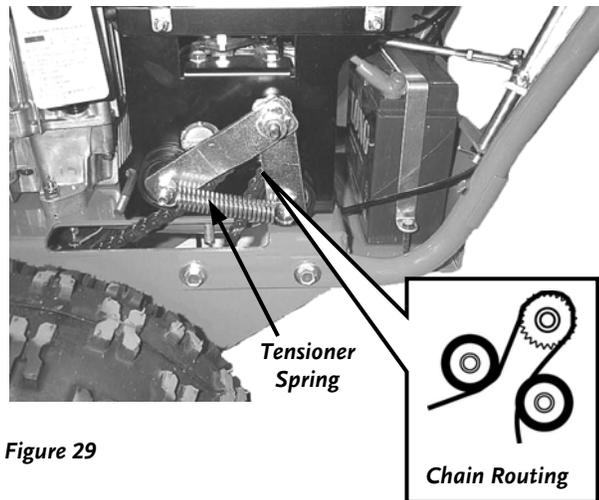

Figure 29
2. Remove the Tensioner Spring (**Figure 29**).
5. Install and route the new Chain (**Figure 29**).
7. Replace the Tensioner Spring (**Figure 29**).